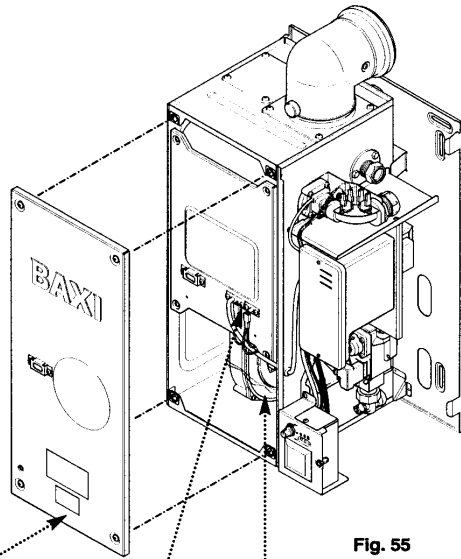

Fig. 55
1. Remove the airbox door panel by loosening the four ¼. turn screws (Fig. 55).